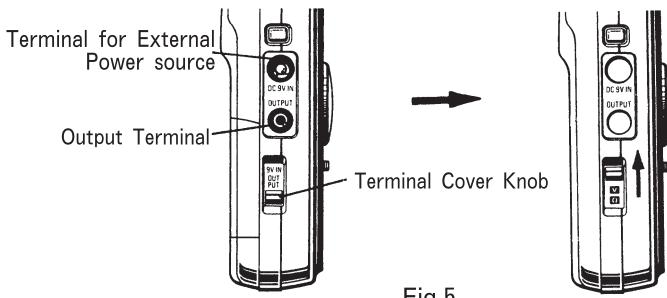

Fig.5
- (1) Set the Range Switch to 200Ω position.
(2) Slide up the Terminal Cover Knob to uncover the COMMON Terminal. (See Fig.5)